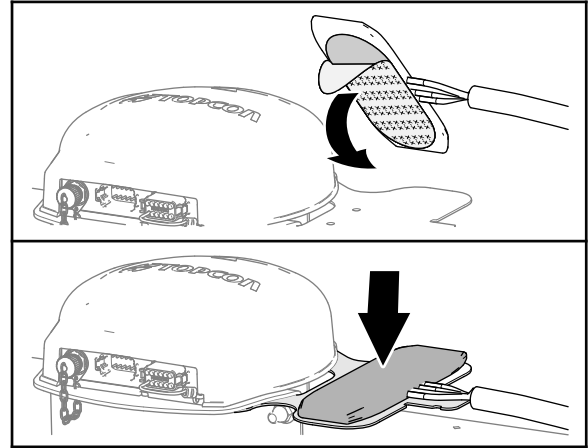

Figure 126
- Remove the backing from the double sided adhesive liner at the bottom of the modem antenna (Figure 126).
- Adhere the modem antenna to the top of the modem-antenna bracket as shown in Figure 126.